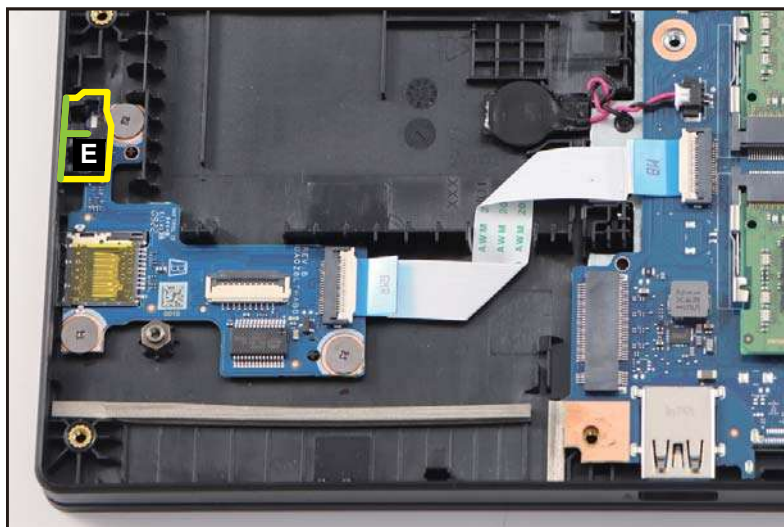

Figure 3-93. Replacing the Card Reader Board
5. Attach the sponge (E) onto its slot on the card reader board (Figure 3-93).
When attaching the sponge, make sure it is properly aligned and placed onto its slot highlighted by the yellow and green lines as shown in Figure 3-93.